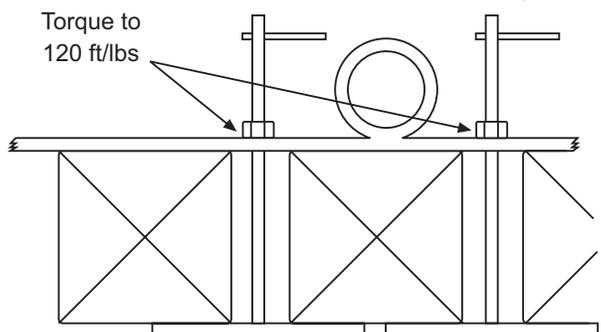

fig. 5
9. Insert the mouth at the base of each leg of the stanchion bracket into the upper portion of the steel girder or base plate. Slide the stanchion bracket inwards until the mouth of each leg is against the outer edge of the steel girder or base plate (fig. 5).